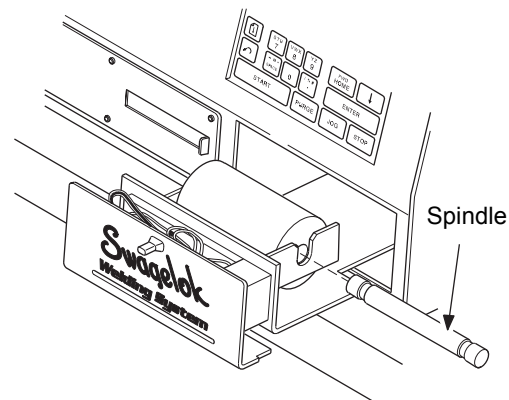

Figure 73 Install Paper
4. Install the new roll of thermal paper and load the paper into the feed mechanism. See Figure 73.